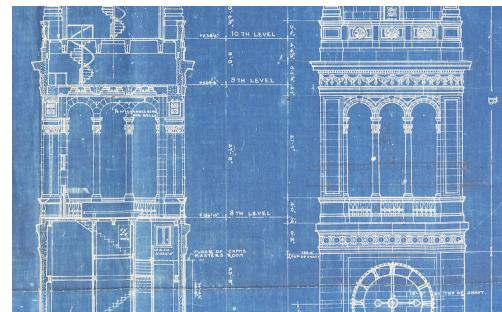

Figure 3-1. Example of blueprint
1. Pass out 1 paper and pencil to each mentee. Mentees should draw a blueprint of their building before moving on to the next step. (Fig. 3-1)